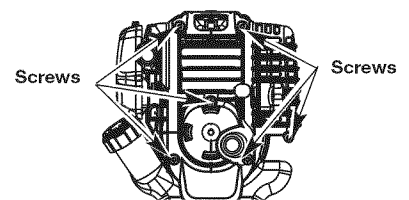

Fig. 30
1. Remove the six (6) screws on the back of the engine cover with a Flat-head or T-25 Torx screwdriver (Fig. 30).
4. Remove the engine cover (Fig. 30).
5. Clean dirt from around the rocker arm cover. Remove the screw holding the rocker arm cover with a large flat blade screwdriver or Torx T-25 bit (Fig. 30). Remove the rocker arm cover and gasket.
1. Stop the engine and allow it to cool. Remove the six (6) screws on the back of the engine cover with a Flat-head or T-25 Torx screwdriver (Fig. 30).